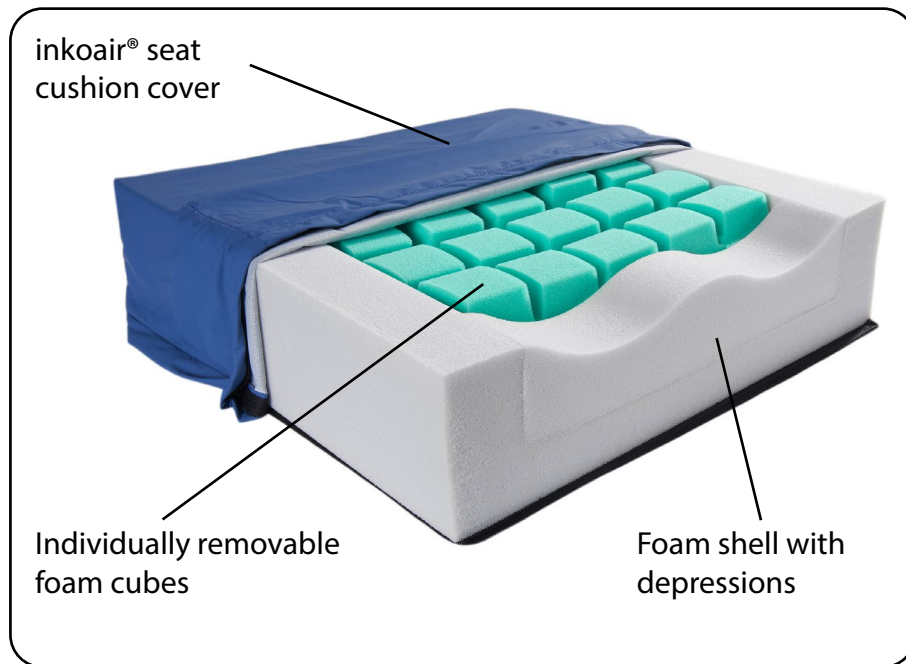

Fig. 5.01 – Top
4. If the product is covered with an inkoair® seat cushion cover, the blue side is the top side (Fig. 5.01). The front of the seat cushion must be placed on the front of the seat and can be identified by the fact that it is the side of the seat cushion cover on which there is no zip. In addition, a symbol indicates the correct orientation of the seat cushion in relation to the patient (Fig. 6.01).
- When positioning the foam core, make sure that the two depressions for the thighs are on the front side of the cover (Fig. 5.01).